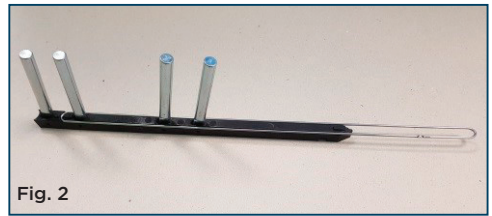

Fig. 2
B) Slide the two plastic sections together as shown in **Fig. 2**.
C) Ensure wire loop is installed centrally in the curved groove provided **Fig. 2** and **3**